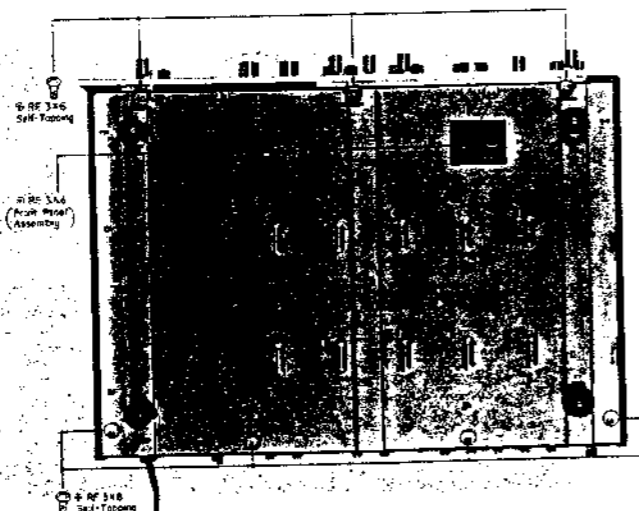

Fig. 2-3. Removal of Front-Panel Ass'y
- d. Turn the set over and remove the two self-tapping screws (+RF3 ϕ × 6) from the front-bottom edge of the chassis. See Fig. 2-3.
- d. Turn the set over and remove the three Phillips-Head screws (+RF3φ × 6) at the front-bottom edge of the chassis. See Fig. 2-3. This frees the Front Panel.